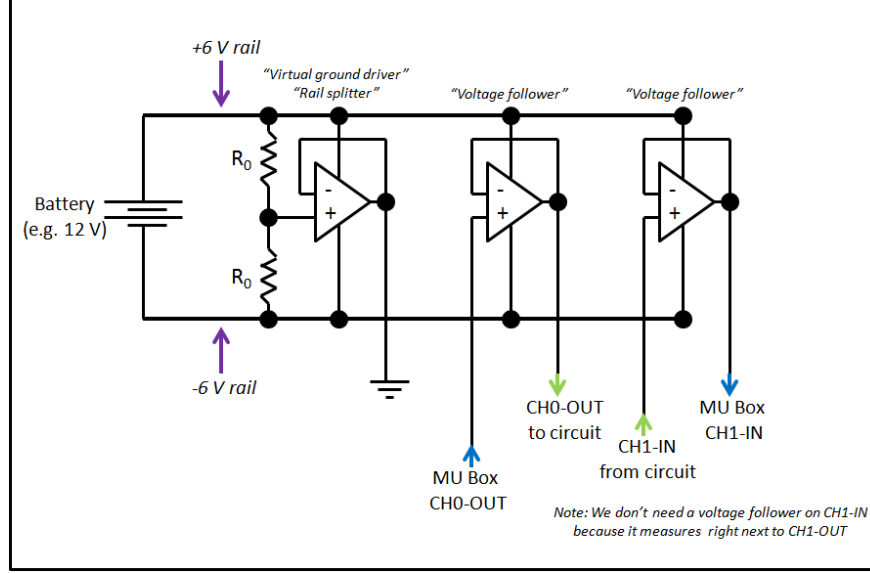

Figure 4: Circuit to power the op-amps. We split the battery voltage to power the op-amps using a voltage divider (e.g. $R_0 = 10 \text{ [k}\Omega\text{]}$).
Your breadboard will have two main interconnected circuits: A circuit to power your op-amps, and a circuit to measure a test impedance. Please study both parts of the circuit (Figs. 4 and 5) before you begin, so you can plan you breadboard accordingly.
1. Op-Amp circuit: Build the Op-amp breadboard that we will use to measure the loudspeaker impedance, as described below and shown in Figure 4. The purpose of the Op-amps is to isolate the measurement from the finite impedance of the MU box. The circuit diagrams of the MU box are provided in the ‘DOC’ folder of the software package. Based on these circuit diagrams, one may determine the Thévenin source impedance of the output voltage, and the input (load) impedance of the input circuits. There are two critical op-amps, one for
- (b) Drive the circuit from CH0-OUT of the MU-box. *NOTE: If you do not use an Op-amp with a low impedance output (0 [ohms]), as described in Fig. 4, your results will not be as good as they could be.*